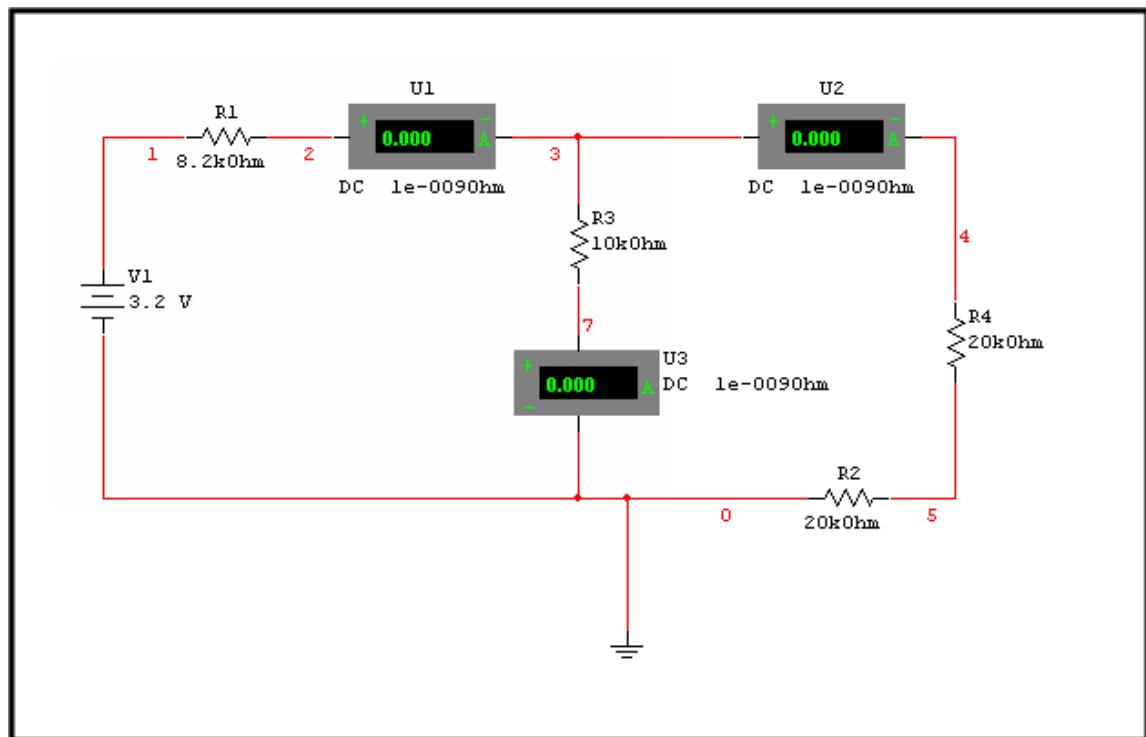
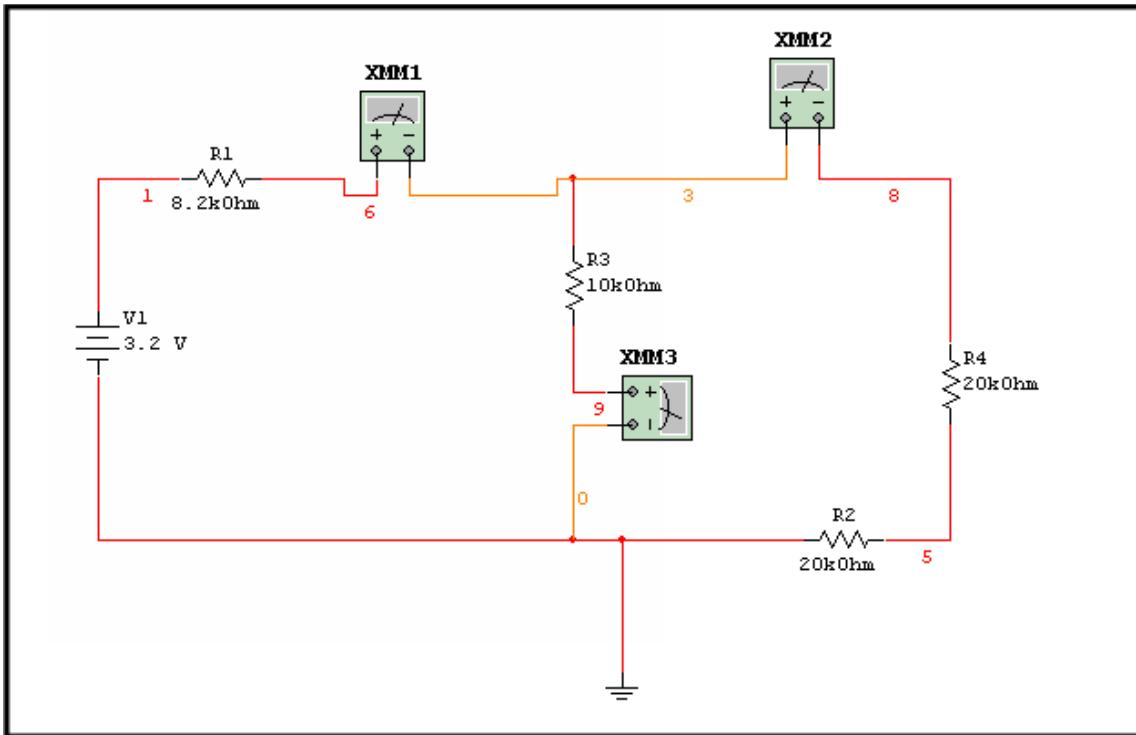

Figure 5: Simulation of Example Circuit using ammeters
Figure 6: Simulation of Example Circuit using multimeters
12. Figure 5 and Figure 6 show what the circuit may look like using either ammeters or multimeters.